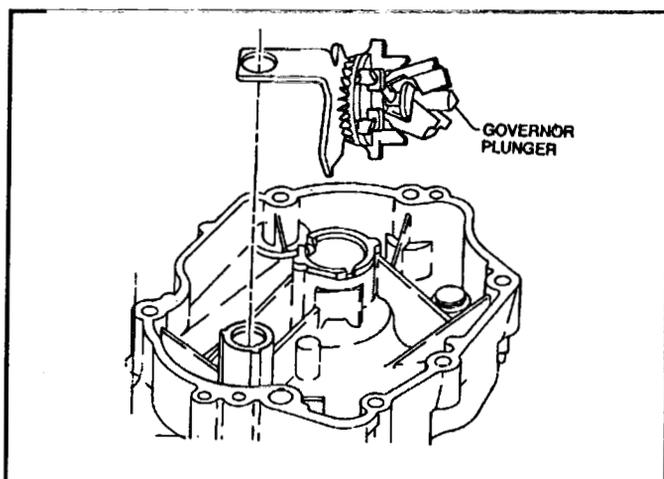

Figure 65
1. With the sump off the engine the governor/splasher may be removed from the end of the camshaft. See Figure 65.